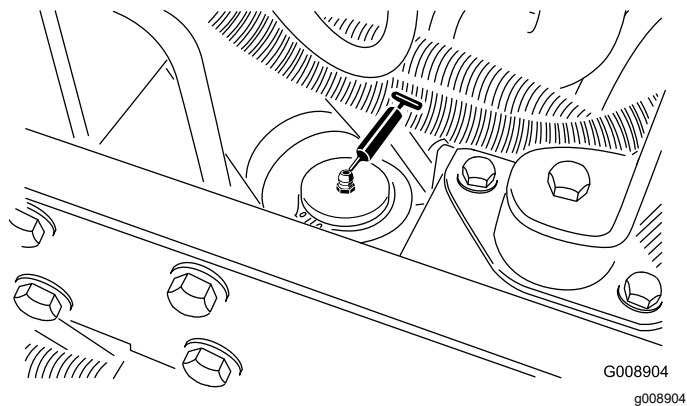

Figure 43
- Steering cylinder (Figure 43)